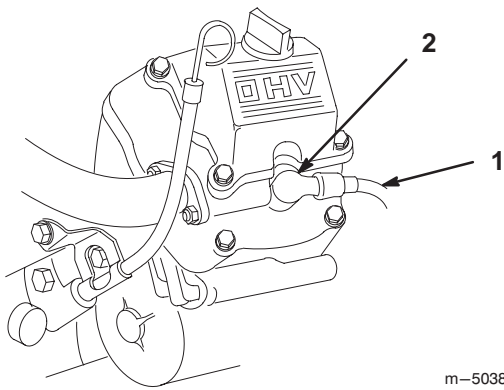

Figure 34
2. Clean around the spark plug(s) to prevent dirt from falling into the engine and potentially causing damage. Pull the wire(s) off the spark plug(s) (Fig. 34).
3. Push the wire(s) onto the spark plug(s) (Fig. 34).